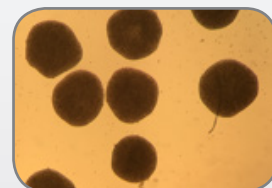

Figure 2. EBs from hESC HS181 cultured on LN521, just transferred to a flat-bottom, low attachment plate. 5x magnification.
- The individual EBs should have a condensed, rounded three-dimensional structure of equal size (Figure 2).